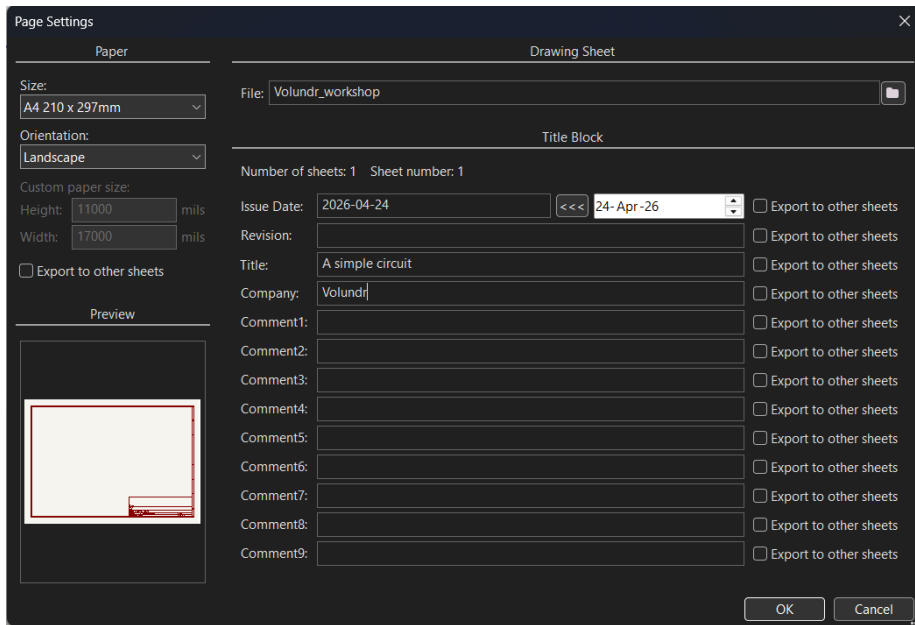

Figure 7: How your page settings might look after setting up
1. Having your page settings as you wish, this is under File→Page Settings, an example is Fig. 7